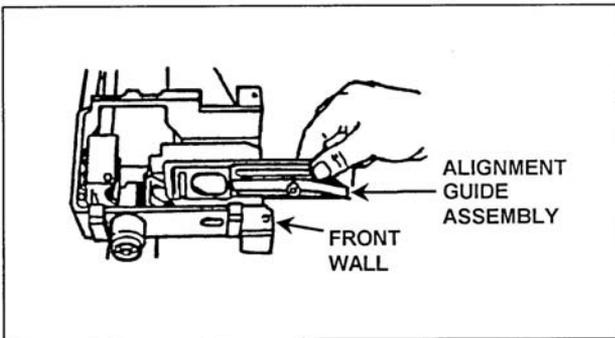

**Figure 071-030-0001-17. Attachment of the round positioning block**
(4) Hold the charger tightly against the rail. Slide the charger forward until it locks into place.
b. Attach the round positioning block (figure 071-030-0001-17).